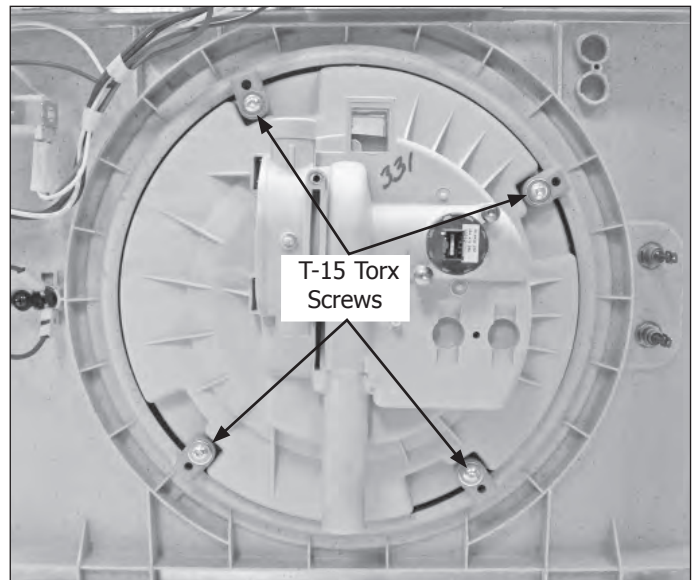

Figure 4-34.
9. Using a Torx T-15 bit, extract the four screws securing the sump retainers to the bottom of the tub. (See Figure 4-34)